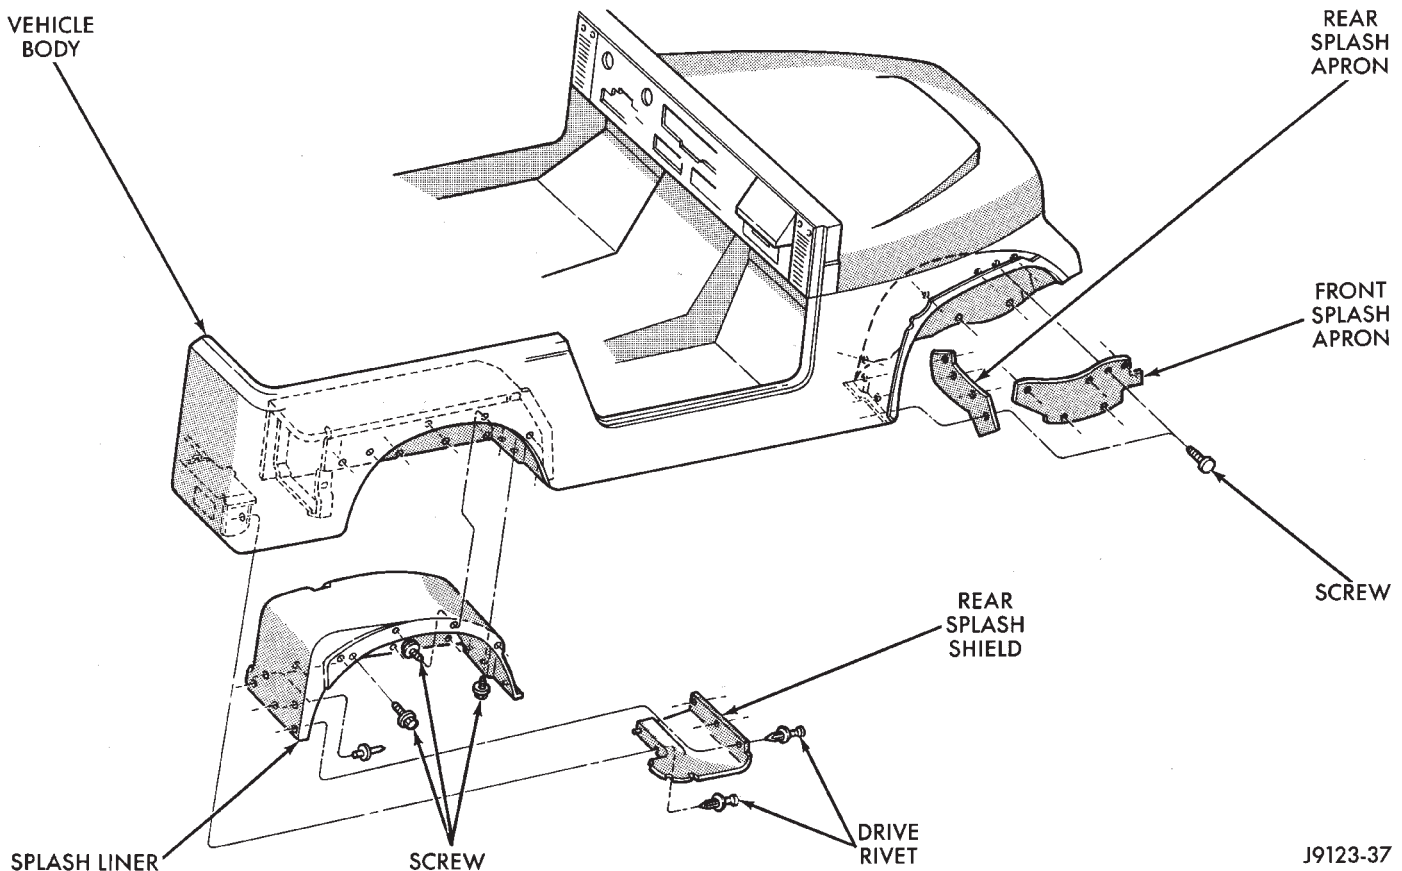

Fig. 41 Wheelhouse Liner, Splash Shield and Splash Aprons
- (1) Remove the liner attaching screws (Fig. 41).
- (2) Remove the rivets that attach the liner to the wheelhouse (Fig. 41).
- (3) Remove the rivets that attach the liner rear splash shield to the rear crossmember (Fig. 41).
- (4) Remove the liner from the wheelhouse (Fig. 41).
- (5) Remove the rivets that attach the rear splash shield to the wheelhouse liner (Fig. 41).
- (1) Attach the rear splash shield to the wheelhouse liner with rivets (Fig. 41).
- (2) Position the liner in the wheelhouse (Fig. 41).
- (3) Install the screws and rivets to attach the liner to the wheelhouse (Fig. 41).
- (4) Install the rivets to attach the rear splash shield to the crossmember (Fig. 41).
- (1) Remove the splash apron attaching screws (Fig. 41).
- (2) Remove the aprons from the fender well (Fig. 41).
- (1) Position the aprons in the fender well (Fig. 41).
- (2) Install the screws to attach the splash aprons to the fender well (Fig. 41).